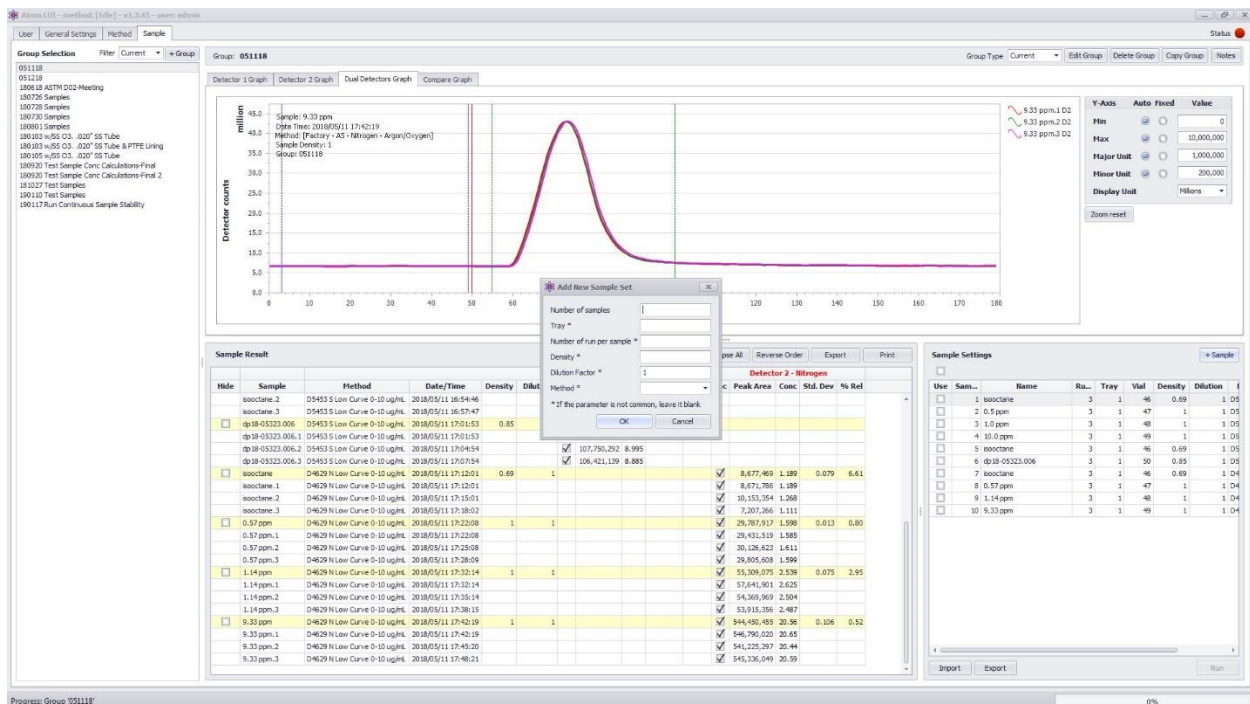

Figure 18 Sample Tab
- Select the “Sample” tab (Figure 18)